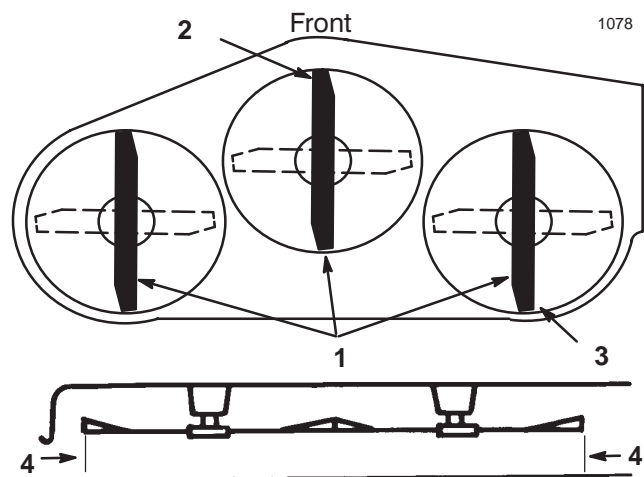

Figure 41
5. Set the height-of-cut at 3 in. (76 mm) and carefully rotate the blades so they are facing front to rear (Fig. 41).
6. Measure between the tip of the front blade (Fig. 41) and the tip of the rear blade to the flat surface. If the front blade tip is not 1/16–5/16 in. (1.6–7.9 mm) lower than the rear blade tip, adjust the front trunion rods.
9. After adjusting both trunion rod yokes evenly, secure the yokes with the hairpin cotters. Check the front-to-rear level again. Continue adjusting the yokes until the front blade tip is 1/16–5/16 in. (1.6–7.9 mm) lower than the rear blade tip (Fig. 41).